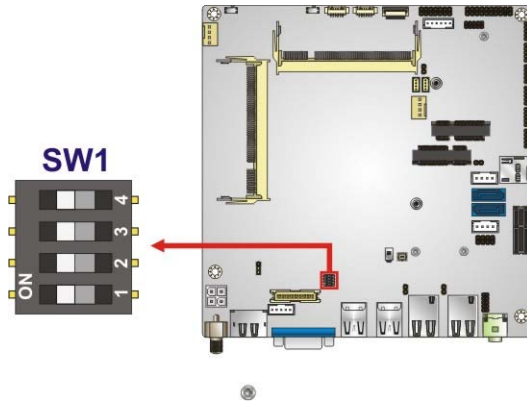

Figure 4-21: LVDS Panel Resolution Select Switch Location
- Jumper Location:** See **Figure 4-21**